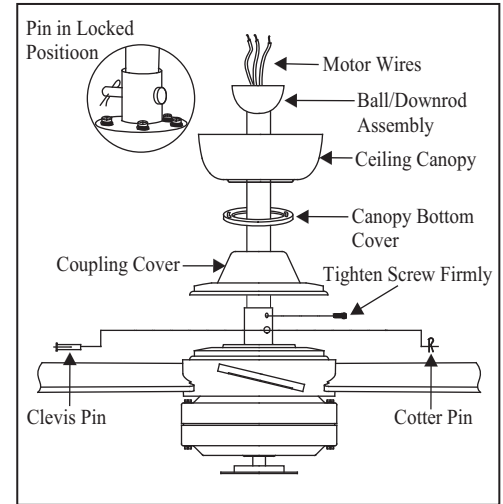

Figure 8
3. Remove the clevis pin, cotter pin and set screws from the top of the motor assembly. (Figure 8)
4. Route wires exiting from the top of the fan motor through the coupling cover, canopy cover, canopy and then through the ball/downrod. (Figure 8)
5. Align the holes at the bottom of the downrod with the holes in the coupling on top of the motor housing (Figure 8). Carefully insert the clevis pin through the holes in the collar and downrod. Be careful not to jam the clevis pin against the wiring inside the downrod. Insert the cotter pin through the hole near the end of the clevis pin until it snaps into its locked position, as noted in the circle inset of Fig. 8.
6. Tighten two set screws at top of the fan motor collar firmly and evenly. (Fig. 8)